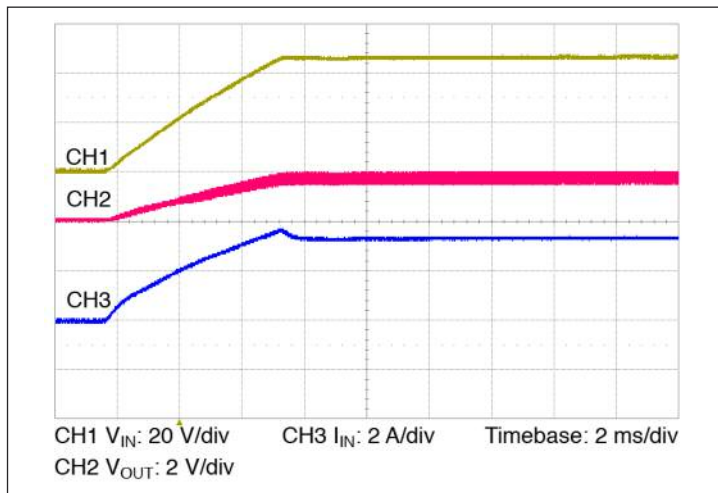

Figure 10 — Start up from application of VIN; VC pre-applied COUT = 27000  $\mu$ F
- **Normal operation (VC applied prior to VIN):** In this case the controller is active prior to ramping the input. When the input voltage is applied, the VTM module output voltage will track the input (See Figure 10). The inrush current is determined by the input voltage rate of rise and output capacitance. If the VC voltage is removed prior to the input reaching 26 V, the VTM may shut down.